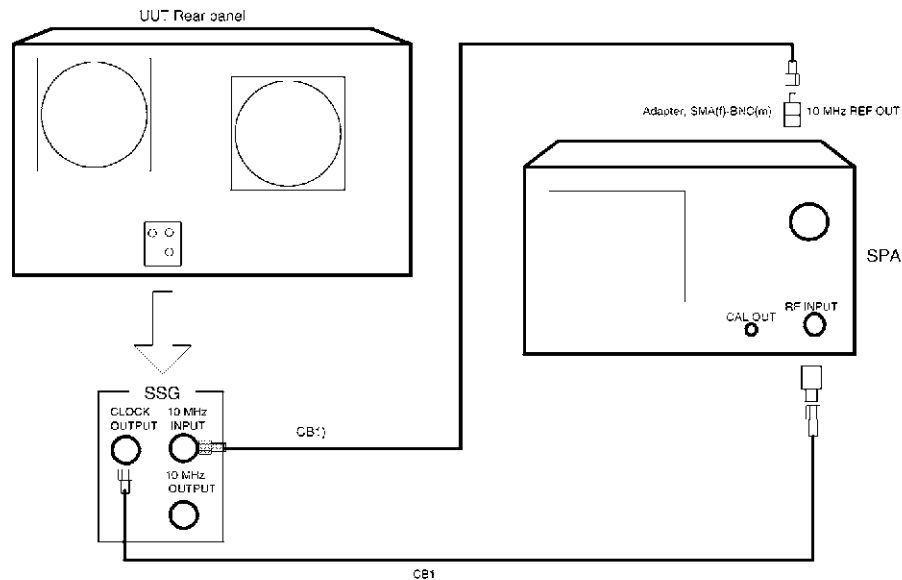

Figure 1-17 Setup of Phase Lock Test
1. Connect equipment as shown in Figure 1-17.